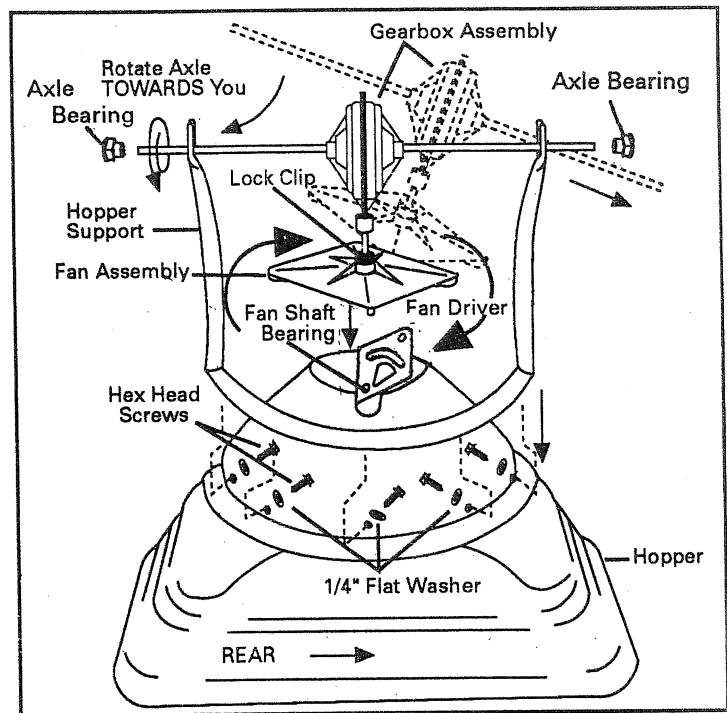

FIG. 4.
### Refer to FIG. 4.
**NOTE:** Again check the direction of rotation. While viewing the inside of hopper from above, the agitator **MUST** rotate **COUNTER-CLOCKWISE**, when pulling the unit forward. If the agitator rotates clockwise, repeat the steps described in FIGURE 4.